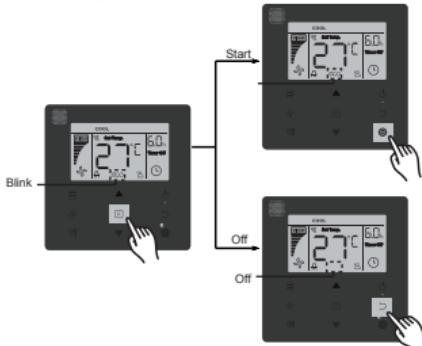

Figure 6.14
- Turn on/off the "ECO" function: press **F** (Function) button to switch to the "ECO" function ("" blinks), and press **⑤**(Confirm) button to turn on the function or **⑥**(Cancel) button to turn off the function (see Figure 6.14).